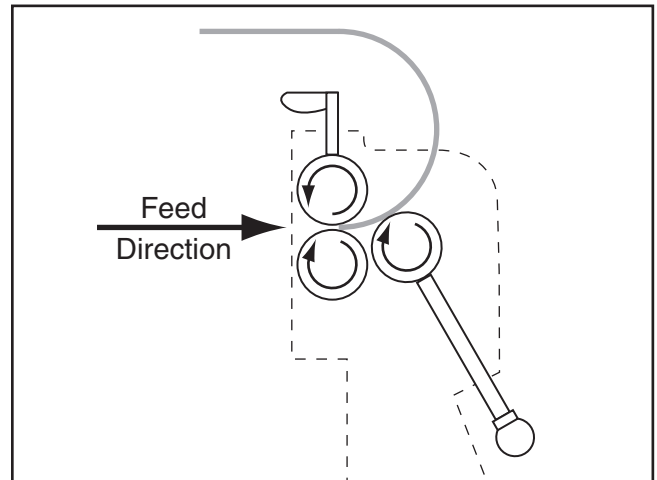

Figure 26. Finishing the first pass.
5. Turn the hand crank to process the material through the slip roll. Continue turning until the workpiece is completely through the upper and lower rollers, as illustrated in **Figure 26**.